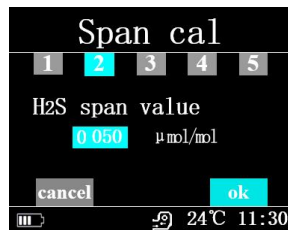

Figure 34
- ii. Enter the correct span value according to the cylinder info, press ok to next step, as show Figure 34.